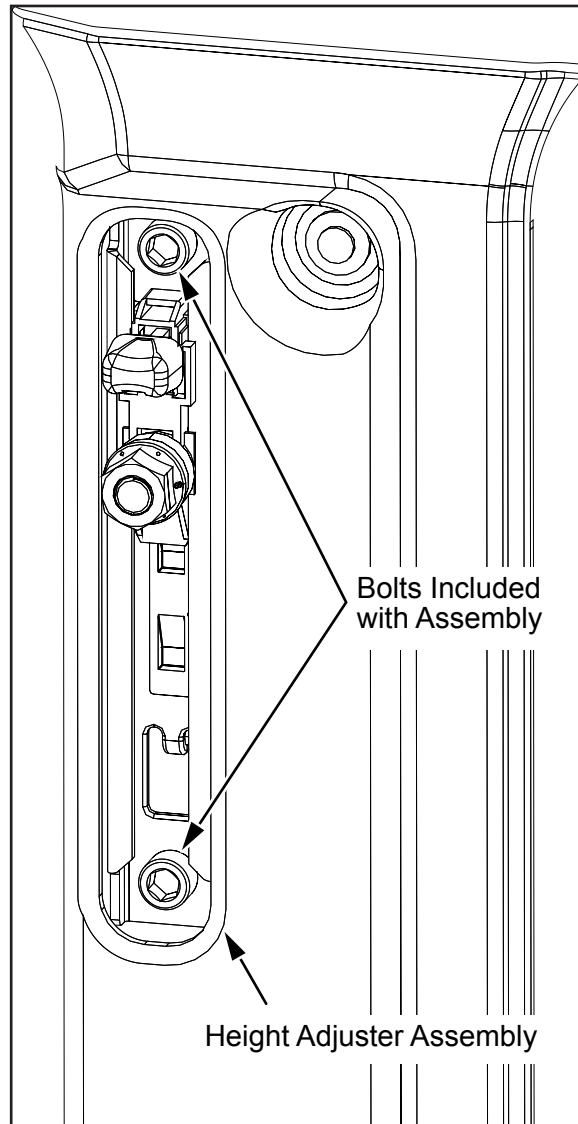

Figure 14
15. Install the height adjuster assembly (S5220006-001) and tighten fasteners to 43 Lbs-Ft of torque. Repeat step 15 for the opposite side (see *Figure 14*).